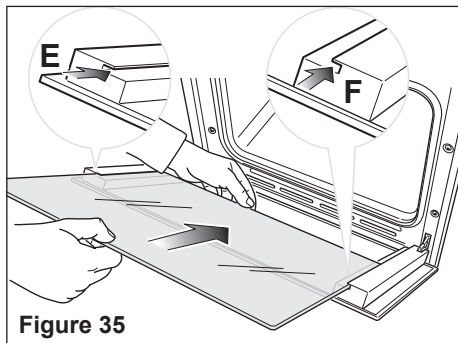
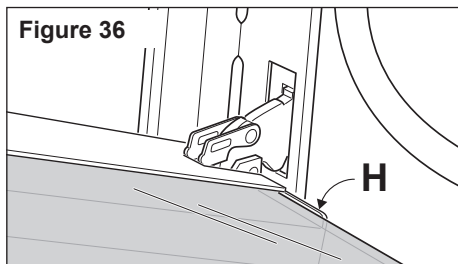

Figure 35
Figure 36
- Insert the pane in the left "E" and right "F" slide guides (fig. 35), and gently slide it to the retainers "H" (fig. 36).